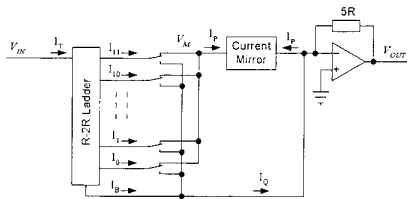

Figure 9
- (b) In *Figure 9*, the ladder is used to form a Digital-to-Analog converter. The value of R is $10\text{k}\Omega$ and a voltage V_{IN} of 2.048 V is applied to the input of the ladder. The current mirror reverses the direction of I_P . You may assume that the voltage V_M is zero. [6]